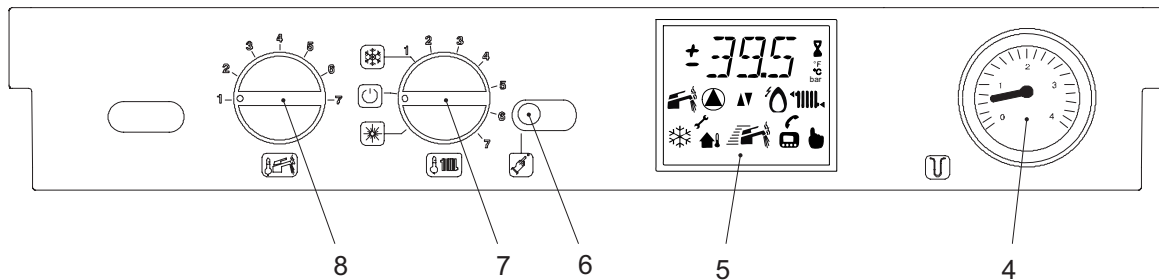
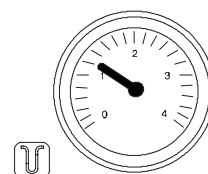

Figure 3.2
Figure 5.1
The LCD (5 in Fig. 3.2) give detailed indication regarding the operation of the boiler.
- Ensure that the Central Heating circuit is regularly filled with water checking that the pressure indicated on the pressure gauge (4 on figure 3.2) is not lower than 1 bar (14.5 psi) as shown on figure 5.1.